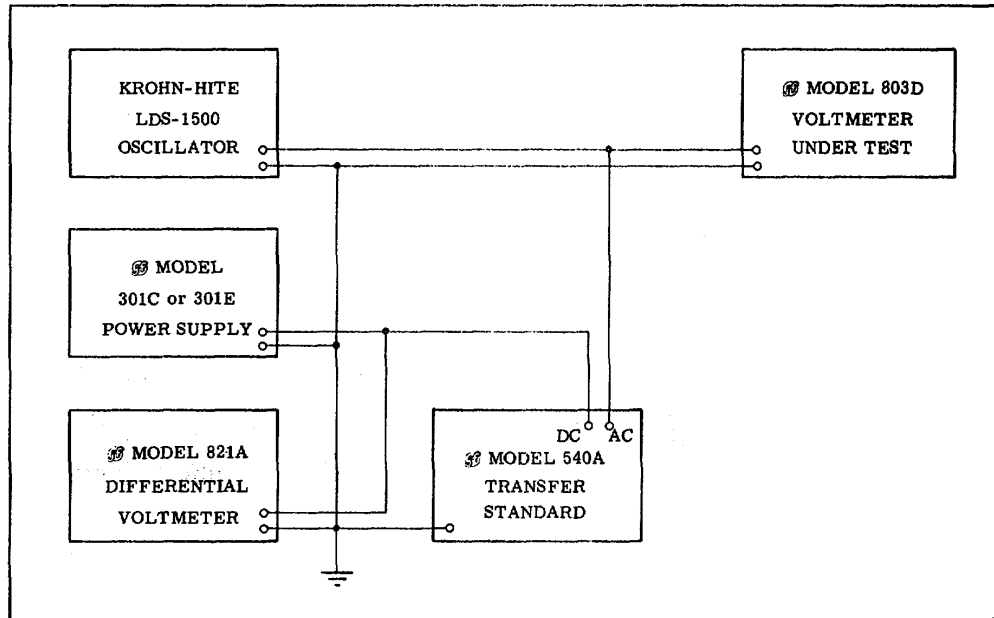

Figure 4-5. AC TO DC CONVERTER CALIBRATION SET-UP
- Set up the necessary equipment to provide 500, 50, 5, and 0.5 volts AC with an accuracy of at least $\pm 0.03\%$ at frequencies of 400 cycles, 10 kilocycles, and 20 kilocycles with less than 0.1 total harmonic distortion. Proceed as follows: connect equipment as shown in figure 4-5; turn on all test equipment and allow it to warmup to equilibrium temperature (about 1/2 hour; adjust DC power supply voltage until differential voltmeter indicates rms value of AC voltage